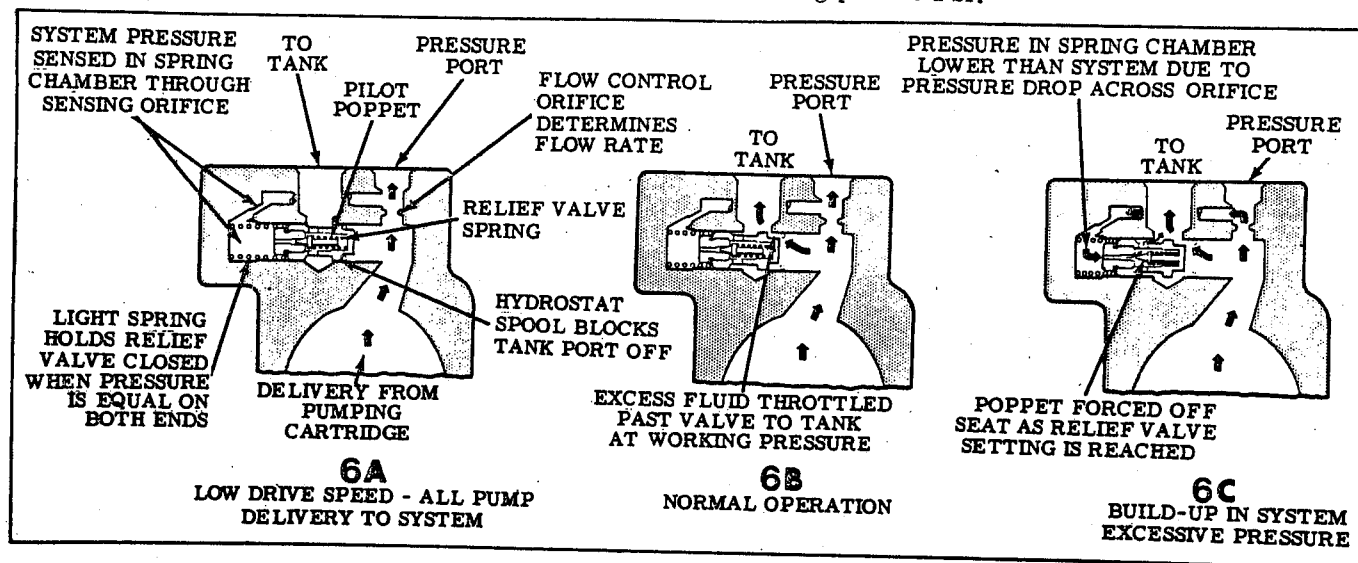

Figure 6. Flow Control and Relief Valve Operation
In **20VQ pump cover end cartridges, it is possible to incorporate a combination flow control and relief valve in a special outlet cover. As shown schematically in Figure 6, this option consists essentially of (1) a flow control orifice in the pressure outlet port, (2) a spring loaded hydrostat spool which functions as a pressure compensator and (3) a spring loaded relief valve poppet, located inside the hydrostat.
1. Flow Control Operation: The light spring shown at the left of the hydrostat in Figure 6, is equivalent to approximately 40 PSI. The hydrostat, because of this spring, operated as a balanced compensating piston, maintaining a constant rate of flow across the flow control orifice.